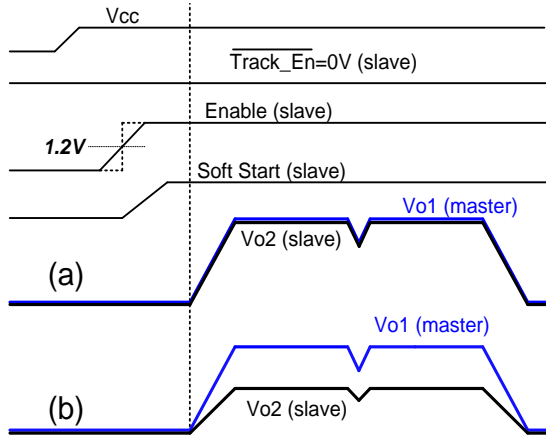

**Figure 26: Application Circuit for Simultaneous and Ratiometric Sequencing**
Tracking and sequencing operations can be implemented to be simultaneous or ratiometric (refer to Figure 27 and Figure 28). Figure 26 shows typical circuit configuration for sequencing operation. With this power-up configuration, the voltage at the Vp pin of the slave reaches 0.5V before the Fb pin of the master. If  $R_E/R_F = R_C/R_D$ , simultaneous startup is achieved. That is, the output voltage of the slave follows that of the master until the voltage at the Vp pin of the slave reaches 0.5 V. After the voltage at the Vp pin of the slave exceeds 0.5V, the internal 0.5V reference of the slave dictates its output voltage. In reality the regulation gradually shifts from Vp to internal DAC2. The circuit shown in Figure 26 can also be used for simultaneous or ratiometric tracking operation if the  $\overline{\text{Track\_En}}$  pin of the slave is connected to LGND. Table 4 summarizes the required conditions to achieve simultaneous / ratiometric tracking or sequencing operations.
**Table 4: Required Conditions for Simultaneous / Ratiometric Tracking and Sequencing (Figure 26)**